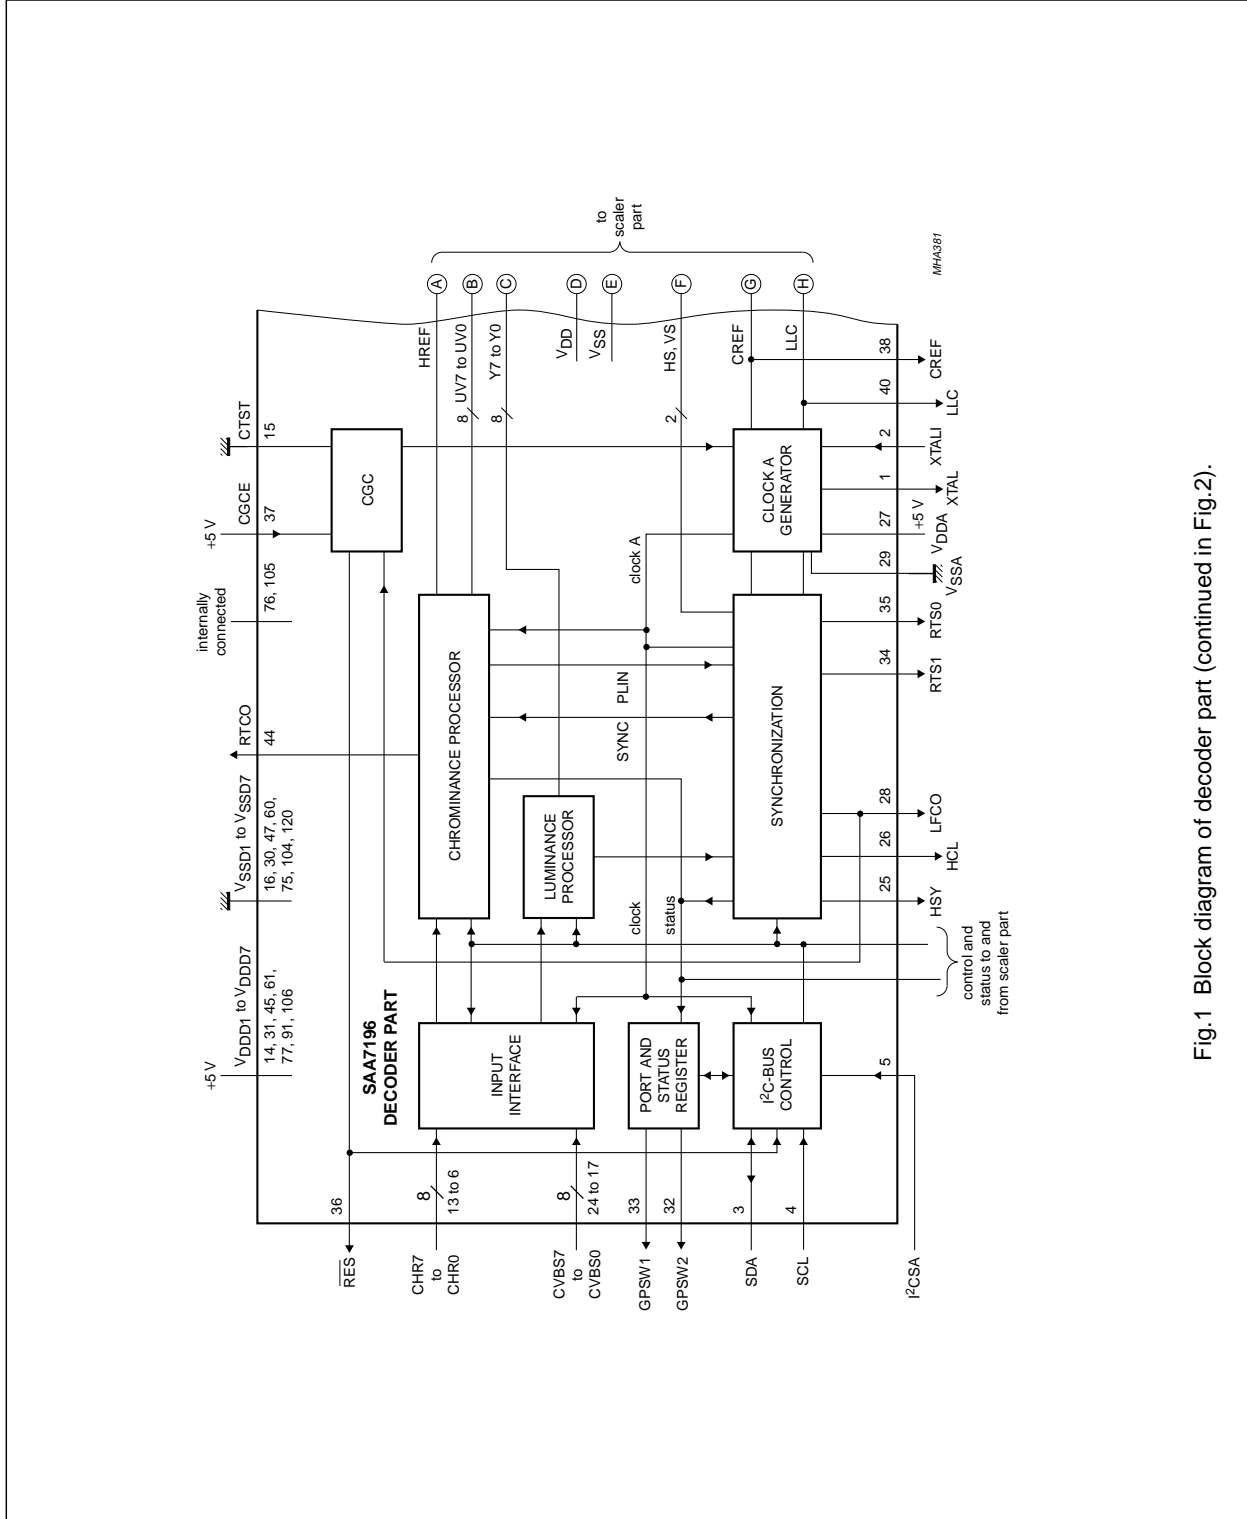

Fig.1 Block diagram of decoder part (continued in Fig.2).
- Port CVBS7 to CVBS0 of input interface; used in Y/C mode (see Fig.1) to decode digitized luminance and chrominance signals (digitized in two external ADCs). In normal mode, only this input port is used and only one ADC is necessary (see Fig.4)
- Port CHR7 to CHR0 of input interface; used in Y/C mode (see Fig.1) to decode digitized luminance and chrominance signals (digitized in two external ADCs)